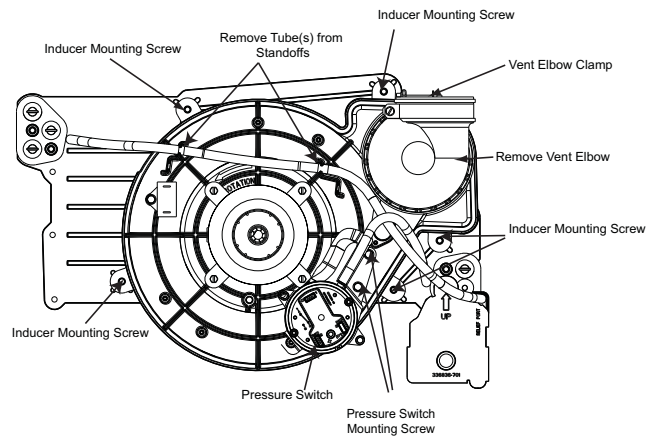

Fig. 2 - Inducer Assembly
1. Remove the front pressure switch tube from the port on the collector box. See Fig. 2.